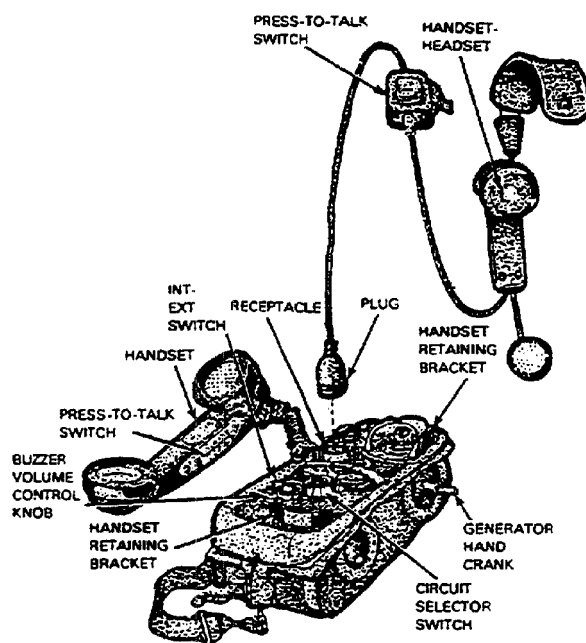

Figure D-1. TA-312/PT
b. Telephone Set TA-312/PT (Figure D-1) is a small, rugged, water-proof, portable field telephone that was designed primarily for operation in the field on a local battery system. However, the telephone will also operate on a common battery system and common battery signaling system.